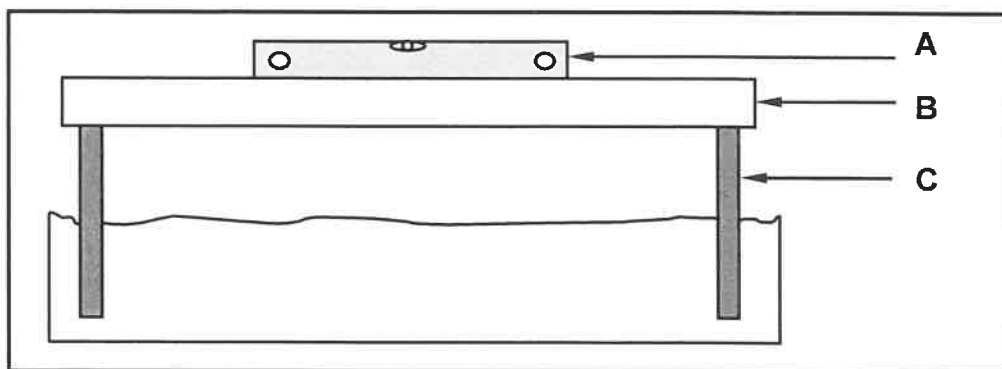

FIGURE 3.5 (3)
3.5 FIGURE 3.5 below shows the layout to determine the route and fall of a trench. Study the drawing and identify A, B and C.